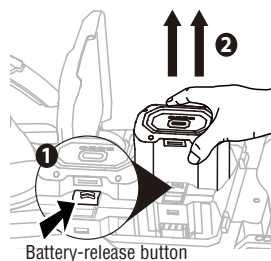

Fig. 5
2. To detach the battery pack, depress the battery-release button to disengage the battery from the latch (1, Fig. 5)
3. Lift it out of the compartment. (2, Fig. 5)